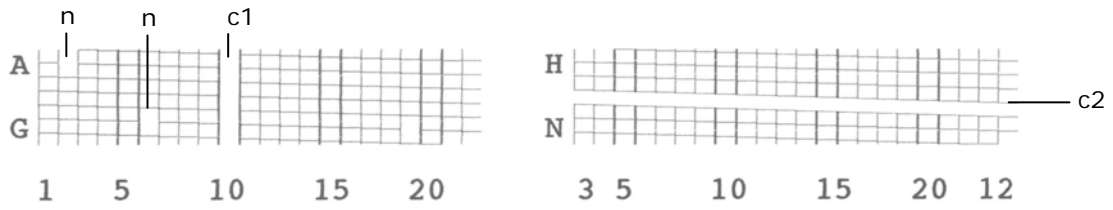
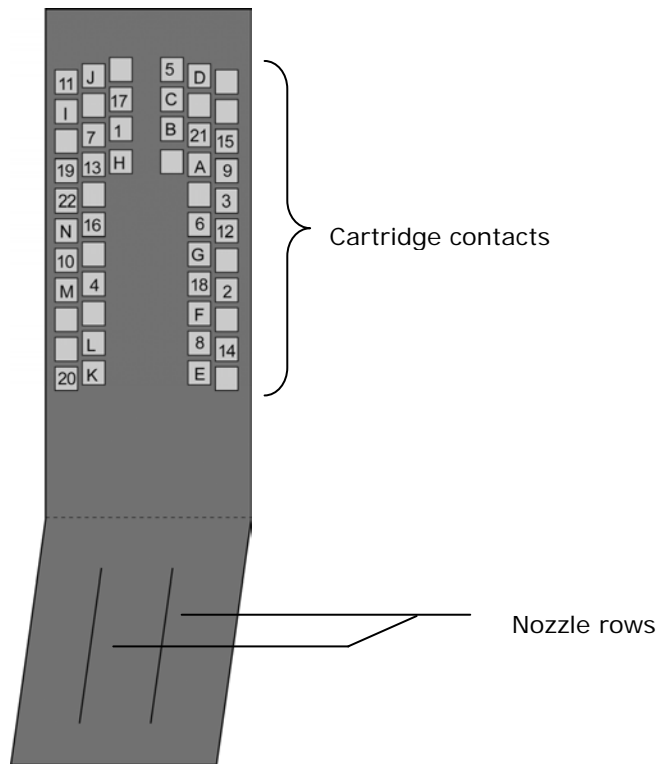

Figure 27: Pattern A with defects
Figure 28: Cartridge contacts
- Figure 27 shows an sample print with several defects. How to clean clogged nozzles, the cartridge and pen board is described in chapter 8.1.1, on page 97 and in chapter 8.1.2, on page 98. If a defect is still visible after cleaning these parts, replace the cartridge. Figure 28 on page 78 shows a reference diagram of the cartridge contacts and their descriptions.